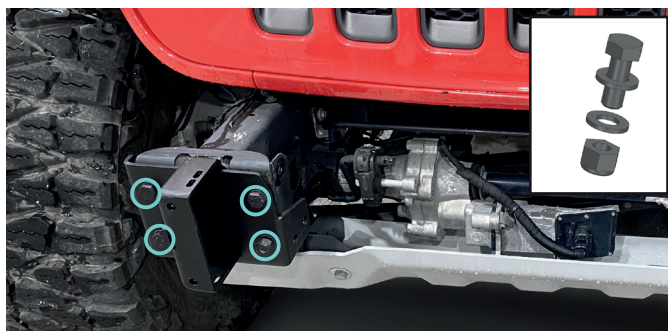

Fig. 8
8. Install frame brackets (item 2, 3) on the vehicle frame. Fix bolts M12x30 (item B), nuts M12 (item F) and washers 12 mm (item I) (Fig. 8).